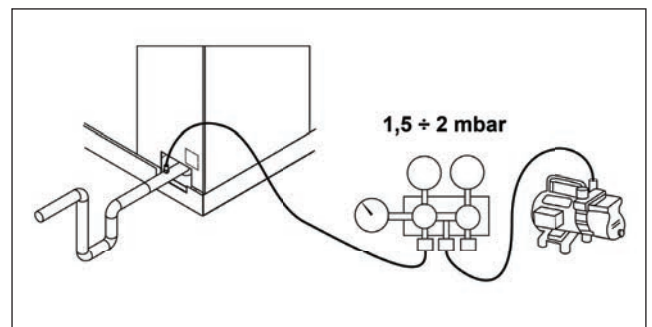

Fig. 13.2
2. Evacuate the coil according to EN 378-2. Use a vacuum pump for evacuating the coil and any interconnecting piping that has been open to atmosphere (Fig. 13.2).